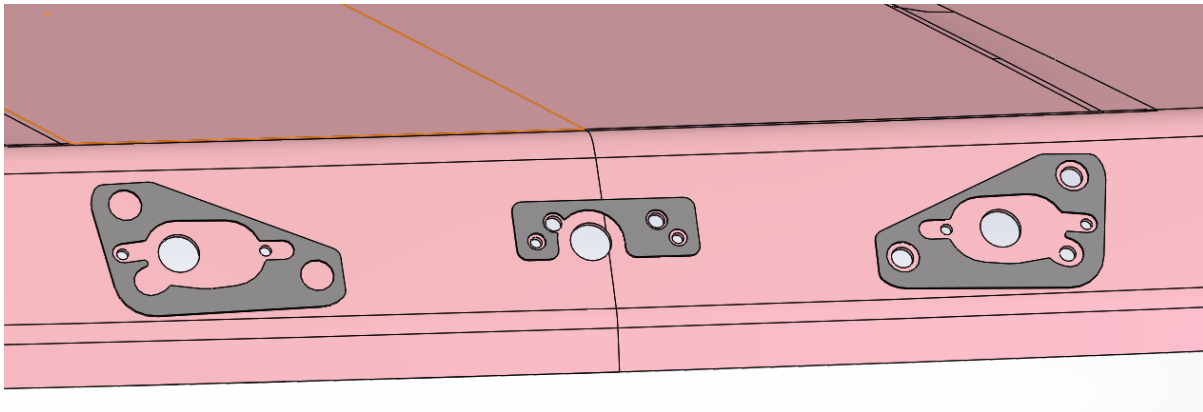

Figure 5: Proper Orientation of PNL50731014S & PNL50731014SM
- c. Use the PNL50731014S spacer plates in place of the large flat washers supplied with the sunvisor. The spacer plates will be positioned as shown in Figure 5. Note that the spacer plates will be flipped for installation on the passenger side.
- d. The PNL50731014SM spacer must be installed between the face of the roof and the CBW bracket. The correct orientation of PNL50731014SM is shown below in Figure 5.